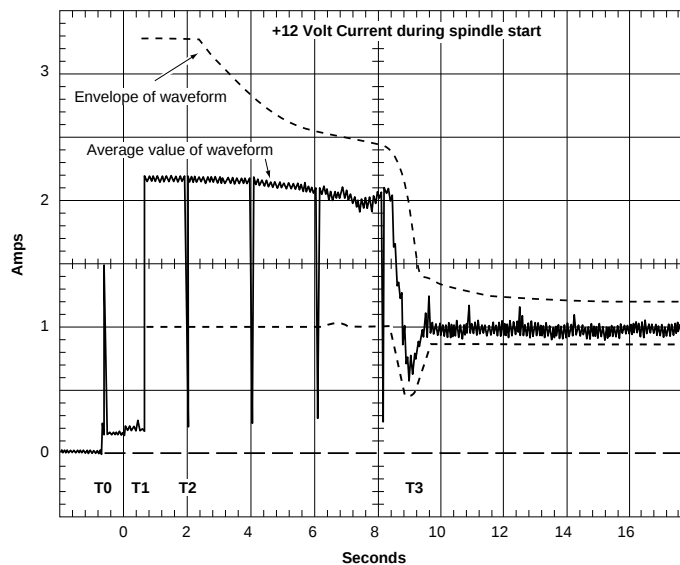

Figure 3. Typical Cheetah 4LP FC drive +12V current profile
- [3] See +12V current profile in Figure 3.
Figure 3 identifies the drive +12V current profile. The current during the various times is as shown.